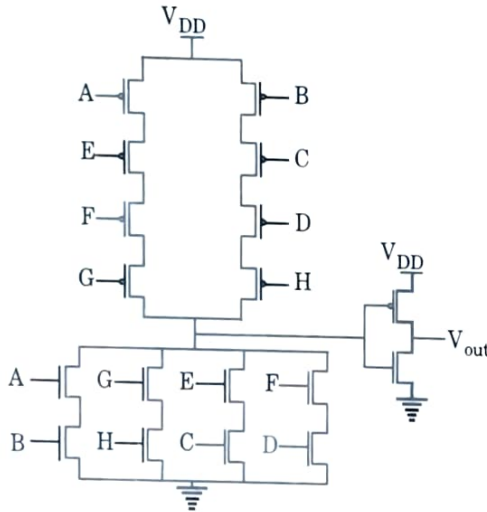
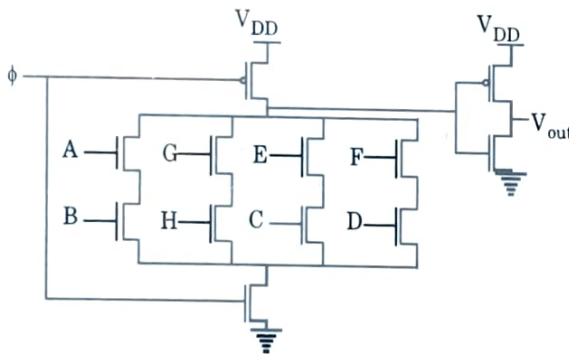

Fig. 3.9.1. Conventional CMOS logic gate.
Fig. 3.9.2. Domino CMOS logic style.
1. Fig. 3.9.1 and Fig. 3.9.2 show the realization of the logic by using conventional CMOS and domino logic styles.